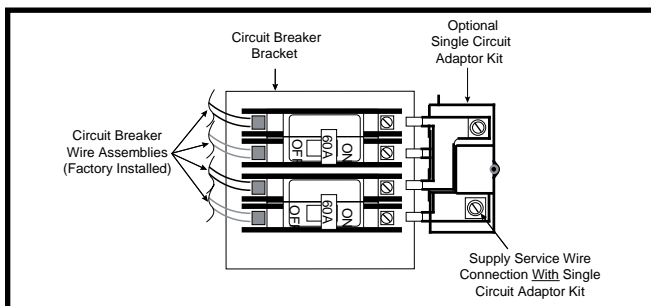

Figure 17. Optional Single Circuit Adaptor Kit
- -012 models are factory-wired for single-branch supply circuit (single-circuit kit factory installed). Dual-branch circuit can be used by removing factory-installed single-circuit kit (see Figure 17).
4. Insert supply service wire(s) through cable connector(s) and connect wires to circuit breakers (Figures 17 & 18). **NOTE:** To install single-circuit kit, perform step 5. If single-circuit kit installation is not needed, go to step 6.